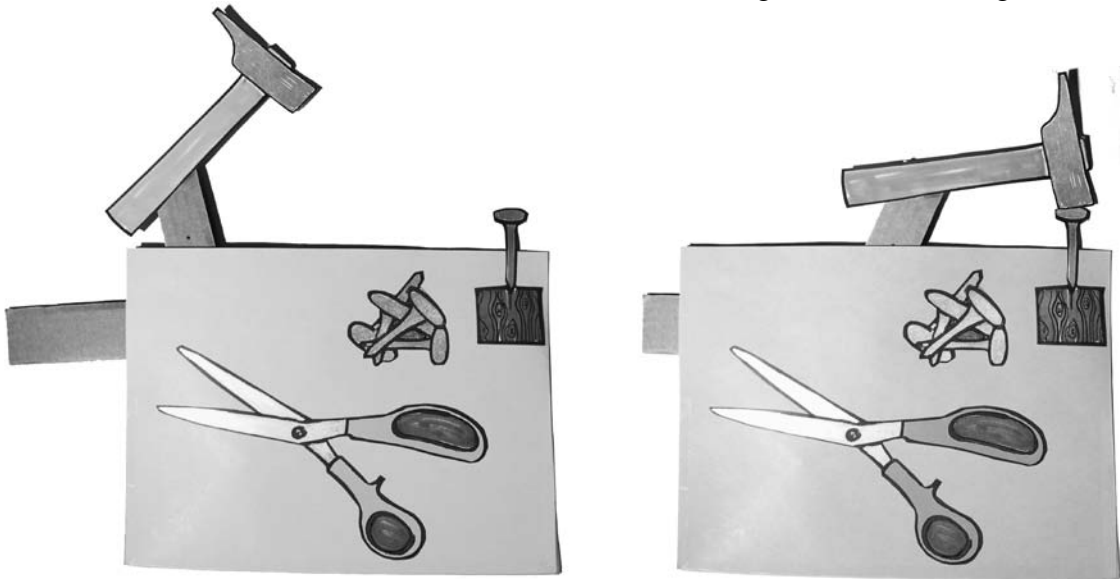

Figure 1: Pushing the input (horizontal strip) to the right makes the hammer hit the nail (output)
1. **Demonstrate** a Hammer MechAnimation, without showing what's inside (Figure 1).